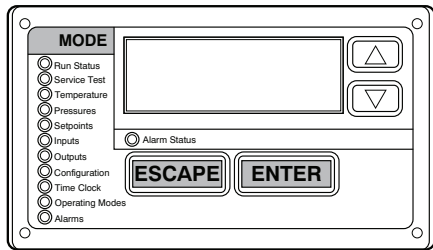

Fig. 12 - ComfortLink Controller
Step 1 — Turn off the unit demand for cooling or heating by using the Scrolling Marquee (see Fig. 12), located in the unit's control box. See Fig. 5 for control box location.